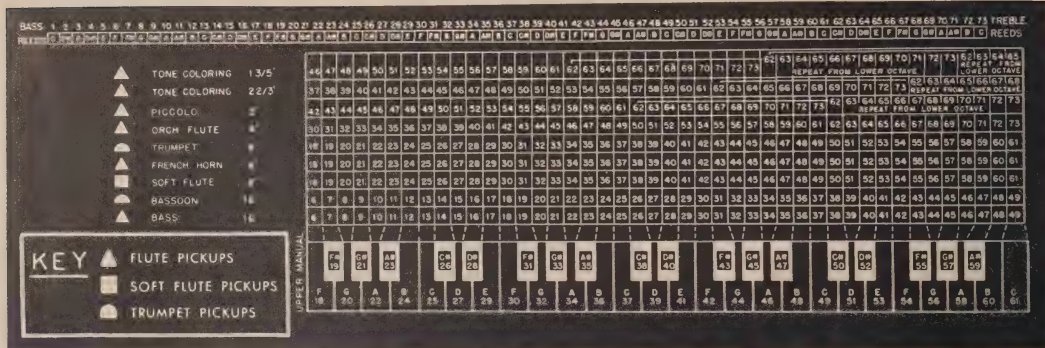

Fig. 1—Upper manual of the Wurlitzer organ. Key indicates type of pickup.
THE available variety of tone colors for both manuals of the Wurlitzer organ is obtained by mixing stops, since actually there are only two varieties of color, flute and trumpet. This scheme could be diagrammed only on a page at least several times the size of this, so only the upper manual is shown (Fig. 1).
Let us see what happens when we play the upper manual with the SOFT FLUTE 8' stop pulled. Start by pressing middle C (key 25) and find it on the manual in Fig. 1. Note that a horizontal column of figures extends to the right from the SOFT FLUTE 8' marking on the chart. Follow the line of boxes upward from key 25 until it intersects the SOFT FLUTE 8' line; you will find a box with the number 25. This indicates that when C25 is pressed with the SOFT FLUTE 8' stop pulled, a pickup on reed No. 25 is energized.
Thus, from Fig. 1 we know that under these circumstances we will get only a soft flute tone from the organ, at the pitch of middle C.